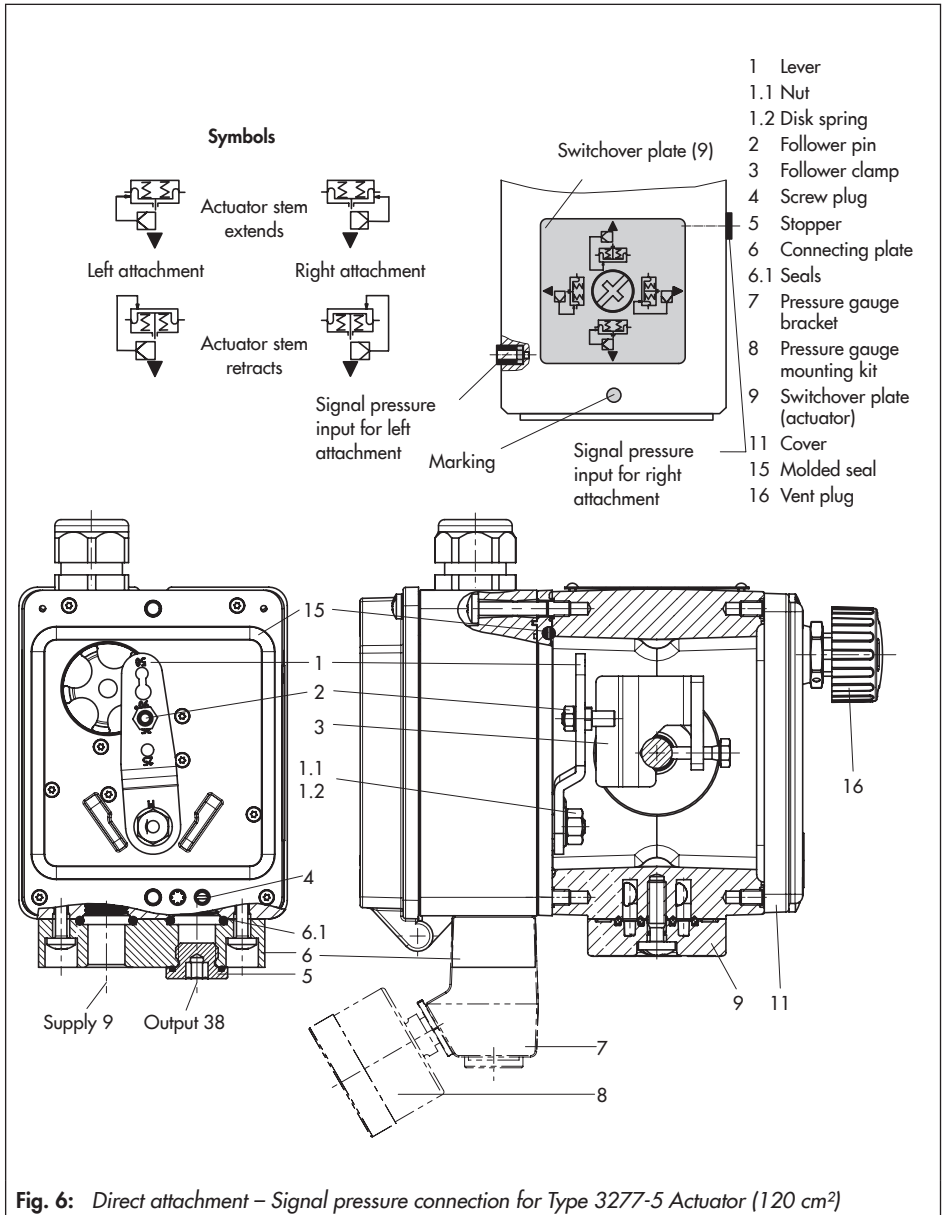

Fig. 6: Direct attachment – Signal pressure connection for Type 3277-5 Actuator (120 cm²)
→ Depending on the fail-safe action of the actuator "actuator stem extends" or "actuator stem retracts", first attach the switchover plate (9) to the actuator yoke (while aligning it with the corresponding symbol for left or right attachment according to the marking, see Fig. 6).
1. Mount connecting plate (6) or pressure gauge bracket (7) with pressure gauges on the positioner. Make sure that the two seals (6.1) are seated properly.